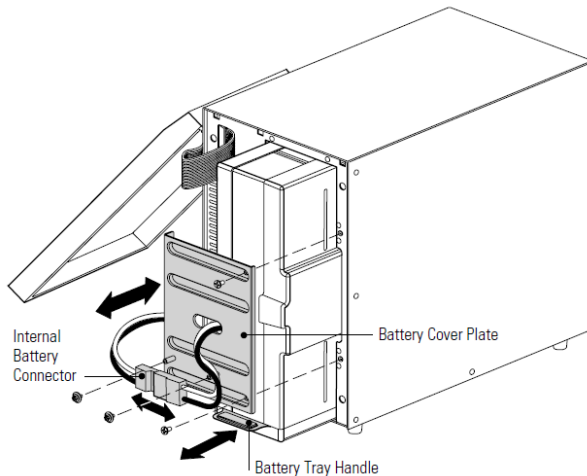

Figure 15: Replacing the internal batteries of the UPS system
2. Unscrew the two screws that secure the plug connection in place these to the side. Disconnect the internal battery plug connection (see Figure 15).
3. Unscrew the two screws that secure the battery cover and place these to the side. Grab the battery cover at a corner and pull it carefully forwards. The battery cover can now be removed and placed to the side (see Figure 15).